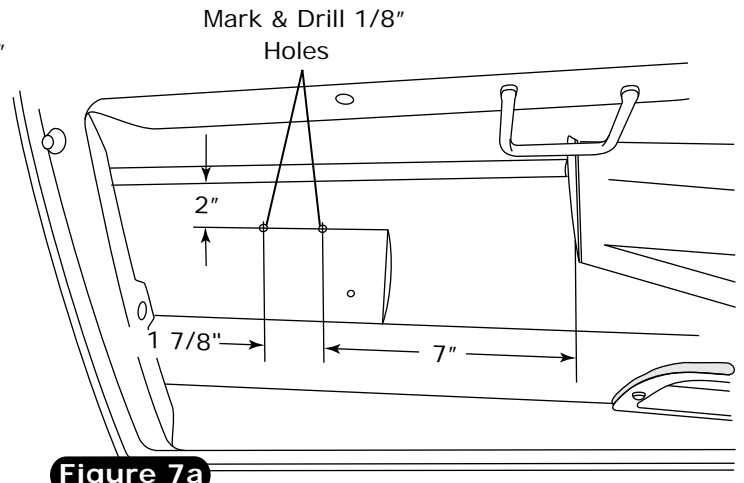

Figure 7a
1. Mark front evaporator mounting bracket hole locations on inner cowl (See Figure 7a, Page 10). Once holes are marked in the correct location, drill 1/8" holes in inner cowl for front evaporator bracket mounting location.